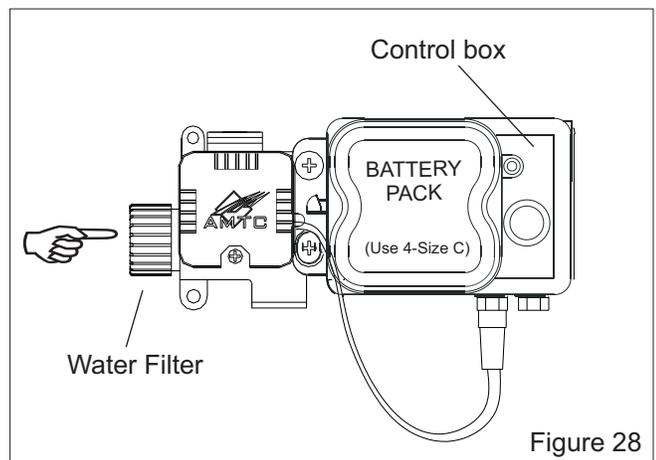

Figure 28
2. Remove water filter (Figure 28) by unscrewing from control box.